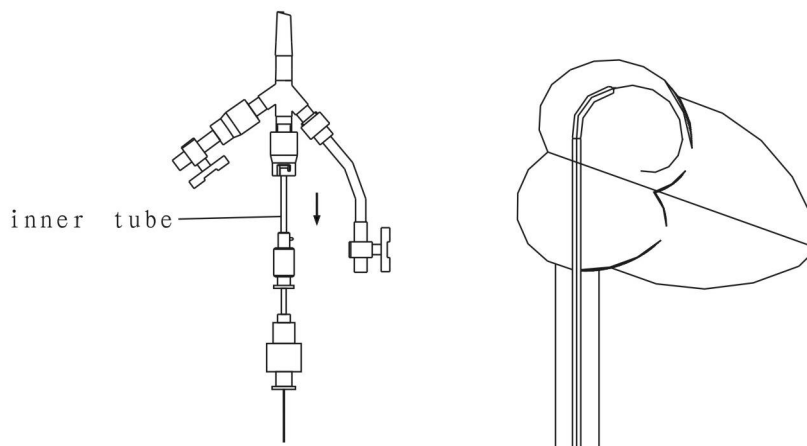

Fig. 18 Extracting the Inner Tube
**Caution: Be careful to unlock the inner tube, and not to pull the balloon catheter out of the left atrium when extracting the inner tube (see fig. 18).**